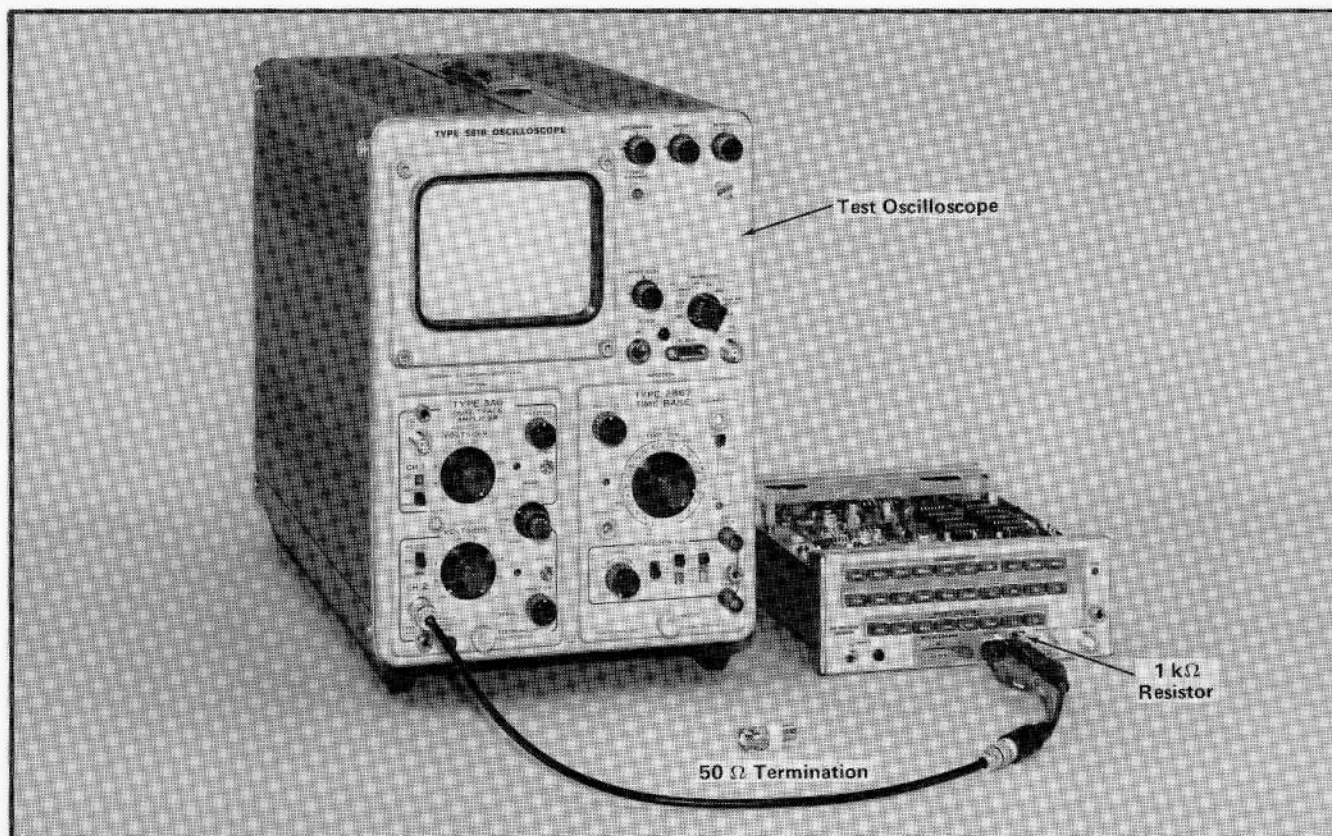

Fig. 5-8. Equipment setup to check— $.1 \mu\text{s}$ to 5 s MARKER OUT amplitude, MARKER AMPLIFIER OUTPUT amplitude, and TRIGGER OUTPUT amplitude.
- a. Equipment setup is shown in Fig. 5-8.
- a. Test equipment setup is shown in Fig. 5-8.